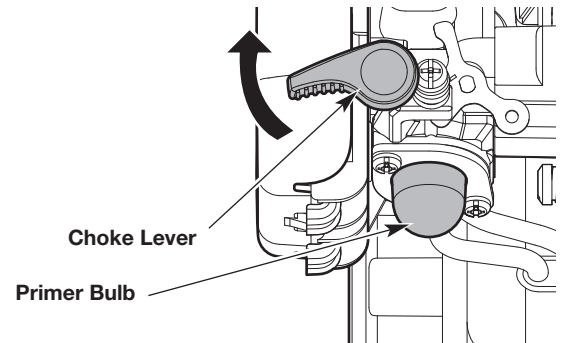

Fig. 10
1. Slowly press and release the primer bulb **10 times** (Fig. 10).
2. Flip the choke lever clockwise until it clicks (Fig. 10).